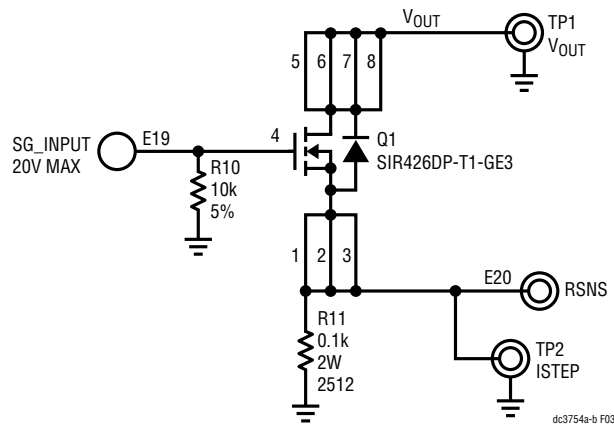

Figure 3. Optional Transient Response Circuit
15. Measure the RSNS voltage to observe the current, $V_{RSNS}/100m\Omega$. Adjust the amplitude of the pulse to provide the desired transient. Adjust the rising and falling edge of the pulse to provide the desired ramp rate. Refer to the following equations and the optional transient response circuit shown in Figure 3: